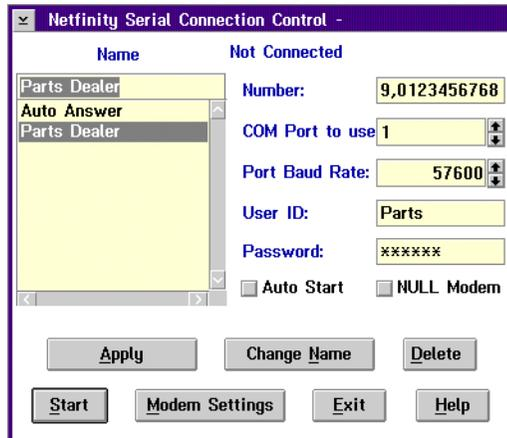

Figure 165. Serial Control Setup
2. You will see a window similar to Figure 165.